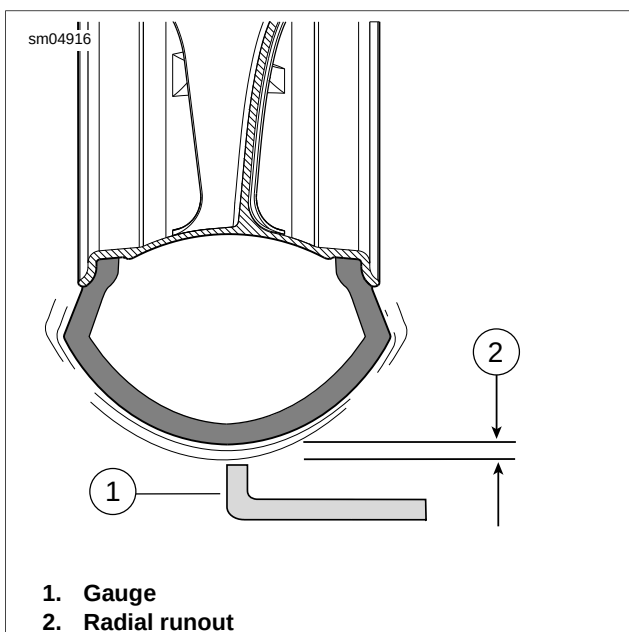

Figure 2-30. Radial Runout
1. See Figure 2-30. Turn wheel on axle and measure tread radial runout.